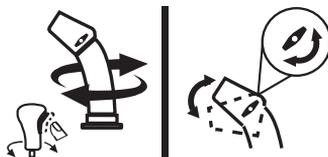

Figure 67
- To change direction in which snow is thrown, squeeze button on control and rotate to the right or to the left (Figure 67).